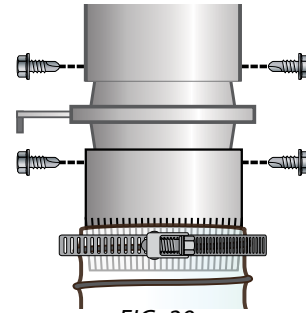

FIG. 29a
- Secure your ductwork pipe and Blast Gate Adapter to the Blast Gate using either Pop Rivets or #8 x 1/2" Sheet Metal Screws. Secure in place at a minimum of four locations. Seal with silicone [FIG 29a].